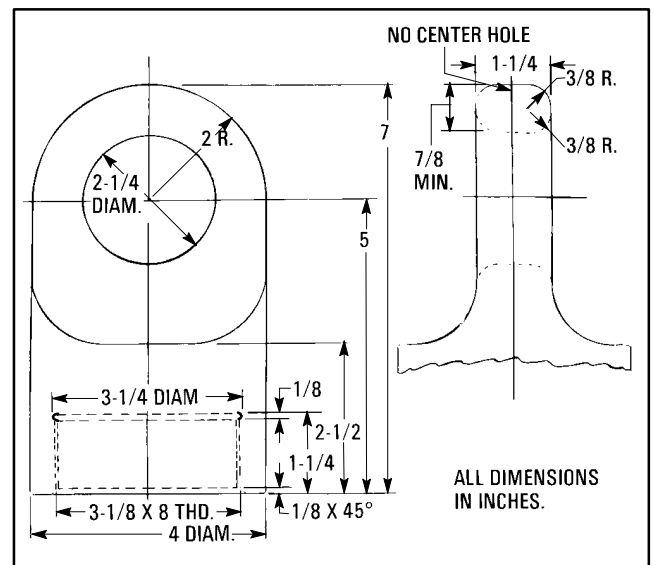

FIG. 14. ARMATURE LIFTING BAIL. E-23932.
- a. On UP1 and AUP1 models, disconnect two grease tubes (21 and 22) from the inner bearing cap (51). Pull these tubes out through their hole in the frame. The sealing RTV in the hole will separate with sufficient force.
- b. On UP2 and AUP2 models, disconnect one grease tube (21) from the inner bearing cap (51). Pull this tube out through its hole in the frame. The sealing RTV in the hole will separate with sufficient force.
10. Remove bolts (10) and lockwashers (12) from the framehead (55). Insert bolts into the jackout holes in the framehead.
11. Install a lifting bail, Fig. 14, onto the end of the shaft.